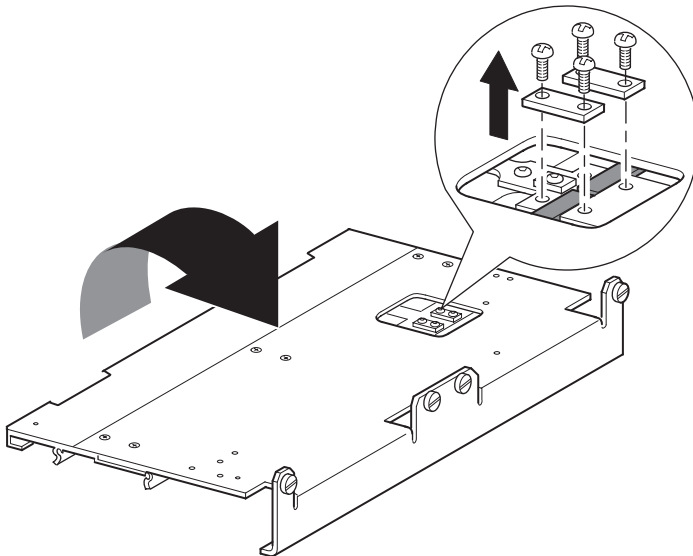

Figure 2-9. Belt block bracket access cutout
3. Turn the PTM over to access to the belt block bracket access cutout (see Figure 2-9).
4. Remove the four mounting screws from the two belt block brackets (see Figure 2-9).